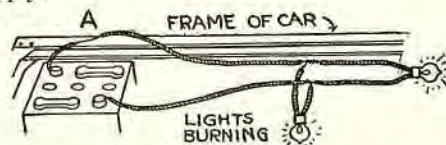

Fig. 2. A ground.
Another example of a ground is shown in Fig. 2, where a two-wire system from a battery is shown connected to two lights. If the wire was grounded to the frame at (A), the current could still flow to the lamps. Therefore, a "ground" might be termed an electrical "leak."